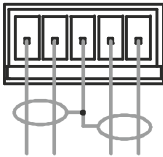

Figure 6: Balanced Stereo Audio Connection
- A balanced stereo output connection, see Figure 6